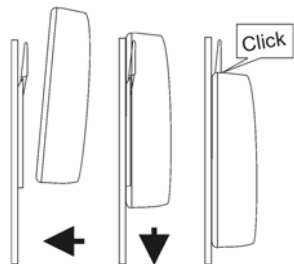

Fig. 3
3. Place the NMEA Interface flat against the bracket slightly higher than the final position and slide gently down into position. There will be a small click as the bracket secures the Interface in position. (Fig. 3)